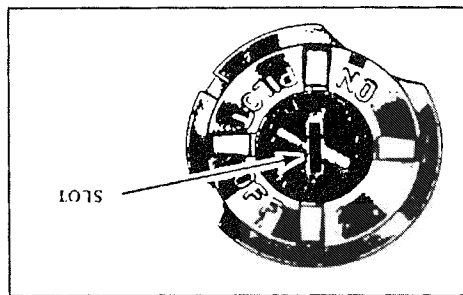

Fig. 1
Robertshaw "Unitrol" (Fig. 1)
1. Remove regulator adjustment cap by inserting screwdriver in slot and rotating counterclockwise (See Fig. 1).